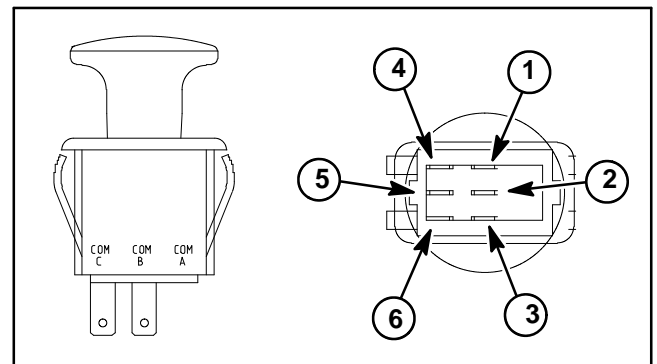

Figure 24
5. The switch terminals are marked as shown in Figure 24. The circuit logic of the PTO switch is shown in the chart below. With the use of a multimeter (ohms setting), the switch functions can be tested to determine whether continuity exists between the various terminals for each switch position. Verify continuity between switch terminals. Replace switch if testing identifies that switch is faulty.